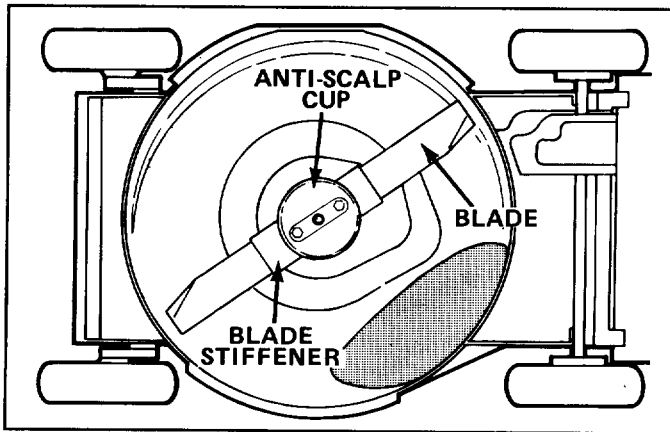

Figure 1
6. Install new mulching blade (P/N 42-1000), blade stiffener, and anti-scalp cup on mower (Fig. 1). Secure with fasteners removed previously. Tighten blade nuts on BBC mowers to 25-33 ft-lbs. Tighten blade bolt on zone start mowers to 45-60 ft-lbs.